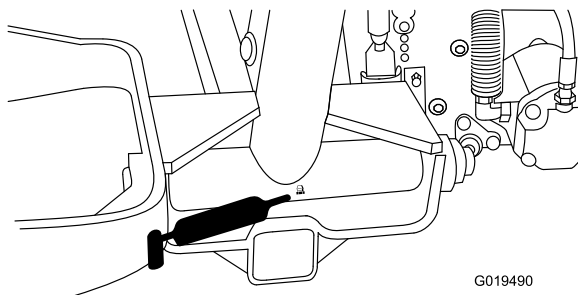

Figure 49
- Lift arm pivot (3) (Figure 49).